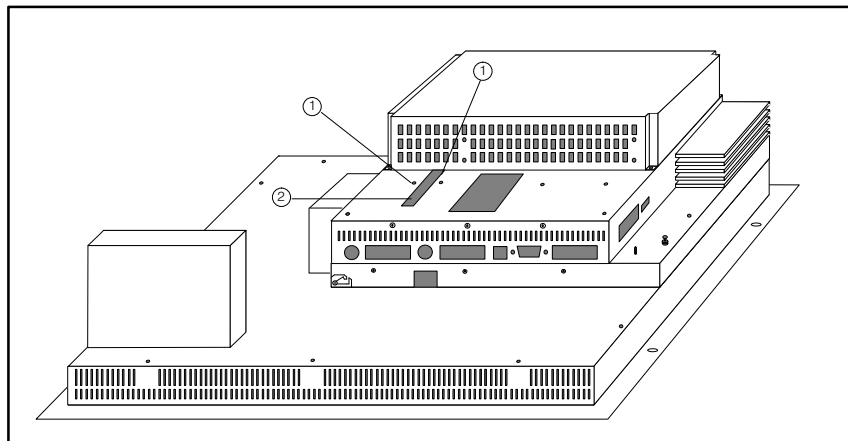

Figure 5-3 Removing the cover plate
2. Release the two rivets ① and remove the cover plate shown in Figure 5-3 with the number ② from the back of the OP.
3. Plug direct key module connector into socket located under the cover plate ② (see Figure 5-3).